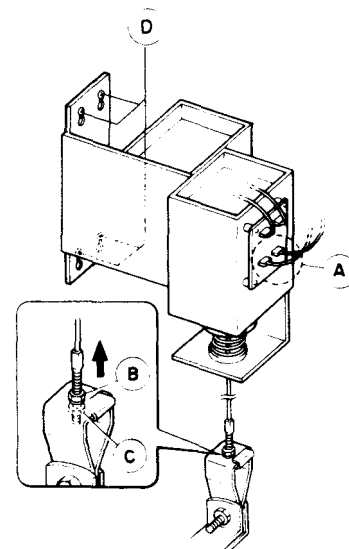

Figure 10.
- 24) Remove the two connectors at (A).
- 25) Loosen the hex nut at (B) on Figure 10 and then remove the hex nut at (C).
- 26) Loosen the four screws of the Side Board (D).